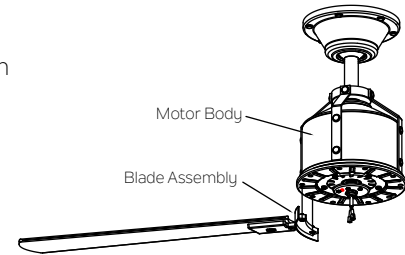

Fig. 18
Step 2. Fasten blade assembly to the holes located on the bottom of the flywheel. Tighten the two "pre-installed" motor screws in the blade arm. Repeat steps for the remaining blades assemblies.(Fig. 18)